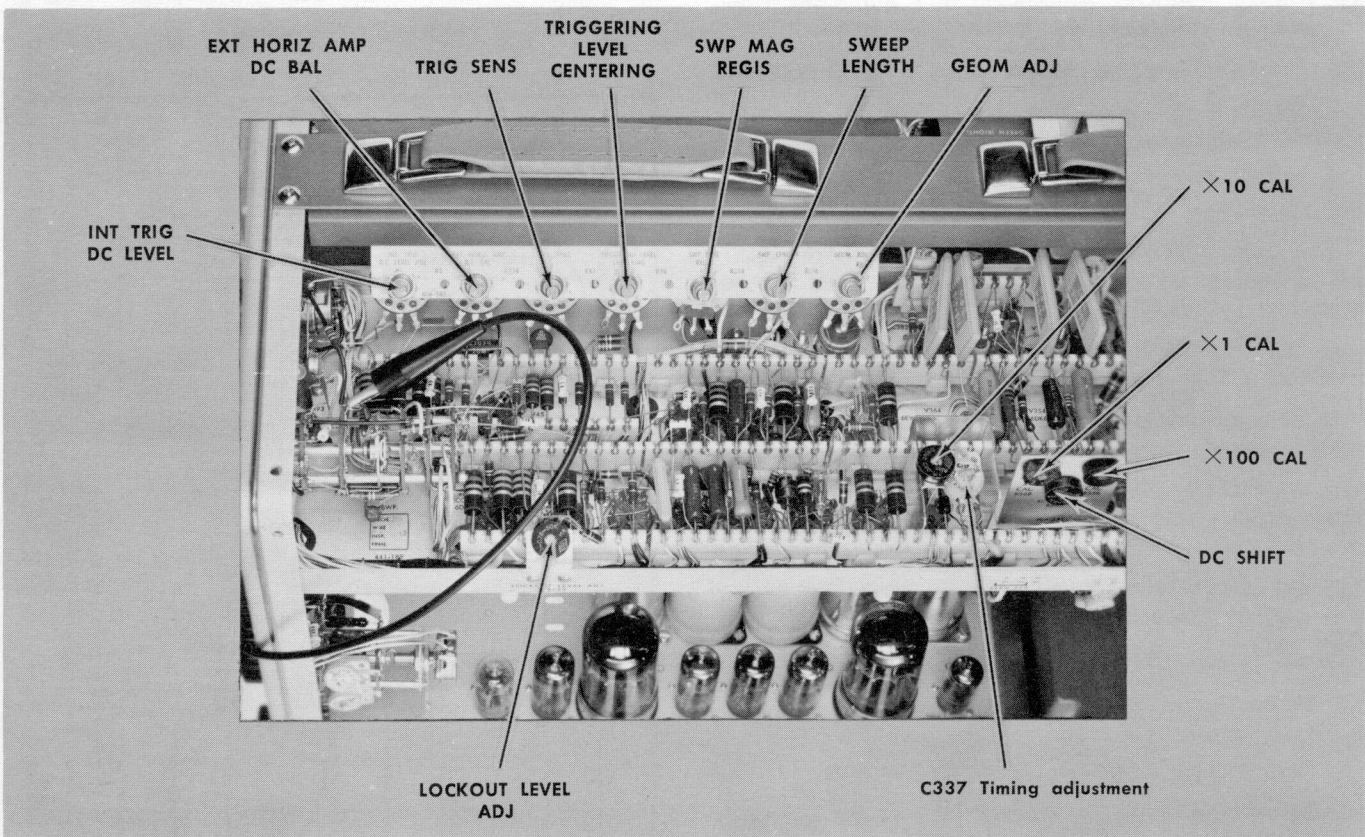

Fig. 6-6. Calibration adjustment locations.
- Adjust the SWP/MAG REGIS R359 control (see Fig. 6-6) to position the center 5 msec time marker to graticule center. If necessary, repeat steps 16e and 16f until there is no movement of the 5 msec time marker as the SWEEP MAGNIFIER switch is changed from X100 to NORMAL (X1) position.
- Adjust the X10 CAL R342 control (see Fig. 6-6) so there is 1 marker per cm from the 1-cm to 9-cm graticule lines. For accurate adjustment the X10 CAL control should be adjusted so the markers at the 1- and 9-cm graticule lines coincide exactly with the 1-cm and 9-cm graticule lines.